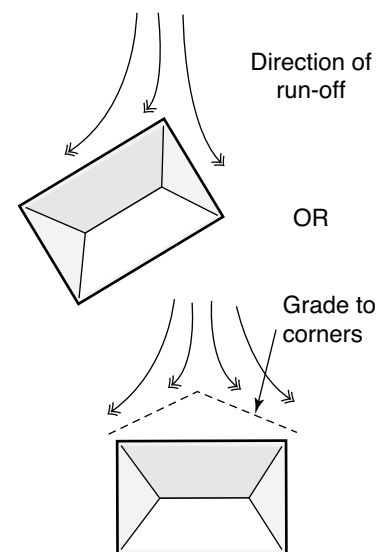

FIGURE 22
- ◆ On a sloping site, place the building at an angle to the slope to prevent the house from acting as a dam to natural run-off, or grade from the centre of the house to the corners to direct water away from the building (see Figure 22). Provide swales to promote drainage.